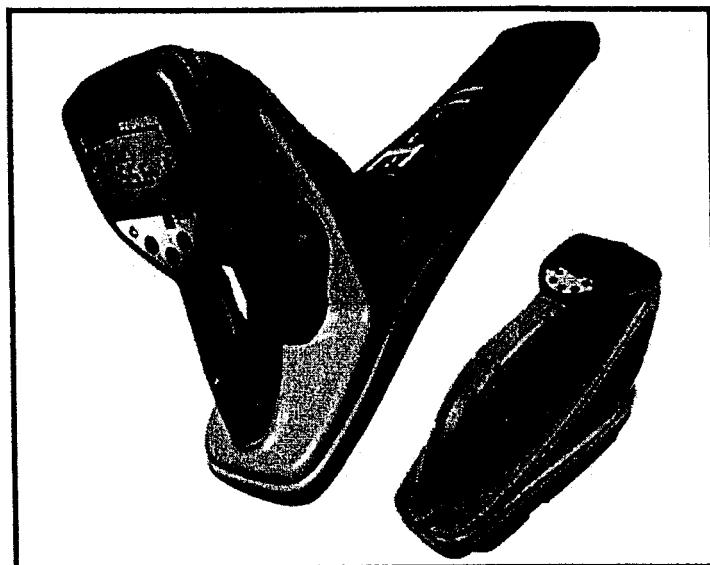

Figure 1(a) / Rajah 1(a)
- CLO1 (a) Based on **Figure 1(a)**, identify the instrument used for this utility survey works